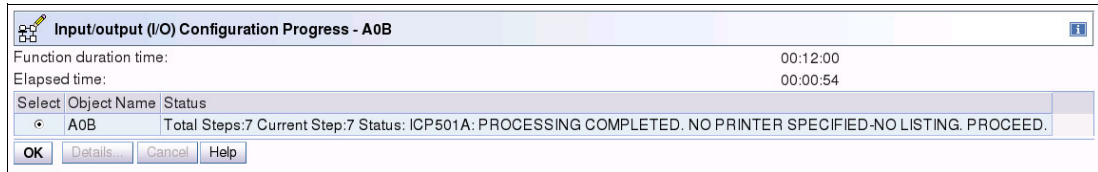

Figure 8-127 HMC - SAIOCP - build process status message
18. Status messages are displayed during the build process. After the process completes successfully, the message shown in Figure 8-127 is displayed. Click **OK**.